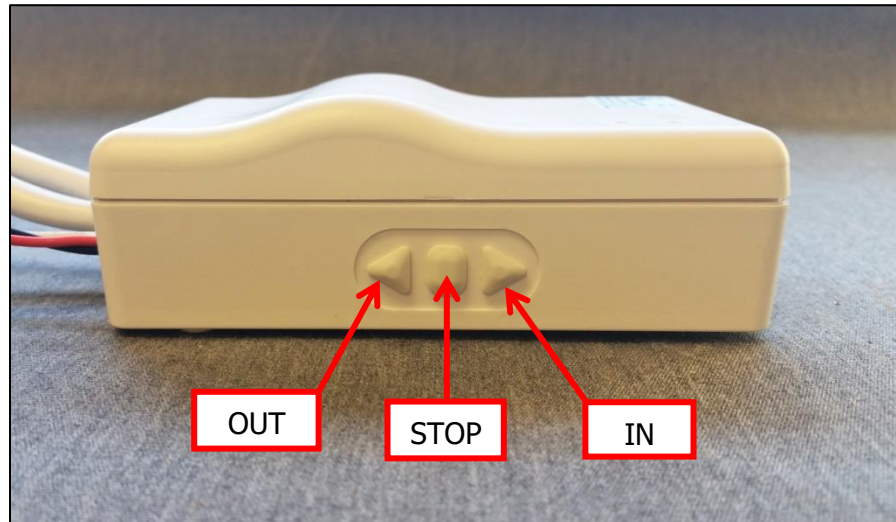

Fig.1
- c. Press STOP (Fig. 1): The Green LED will stop blinking and remain illuminated.
The 98GC2762 remote handset is a Multi-channel RF transmitter, powered by a single 3v Lithium battery (CR2450) designed to control up to 15 awnings and operate the LED lighting strips by means of a multi-functional circular control pad. As shown in Fig.1 below.
- Press STOP (Fig. 1): The Green LED will stop blinking and remain illuminated.